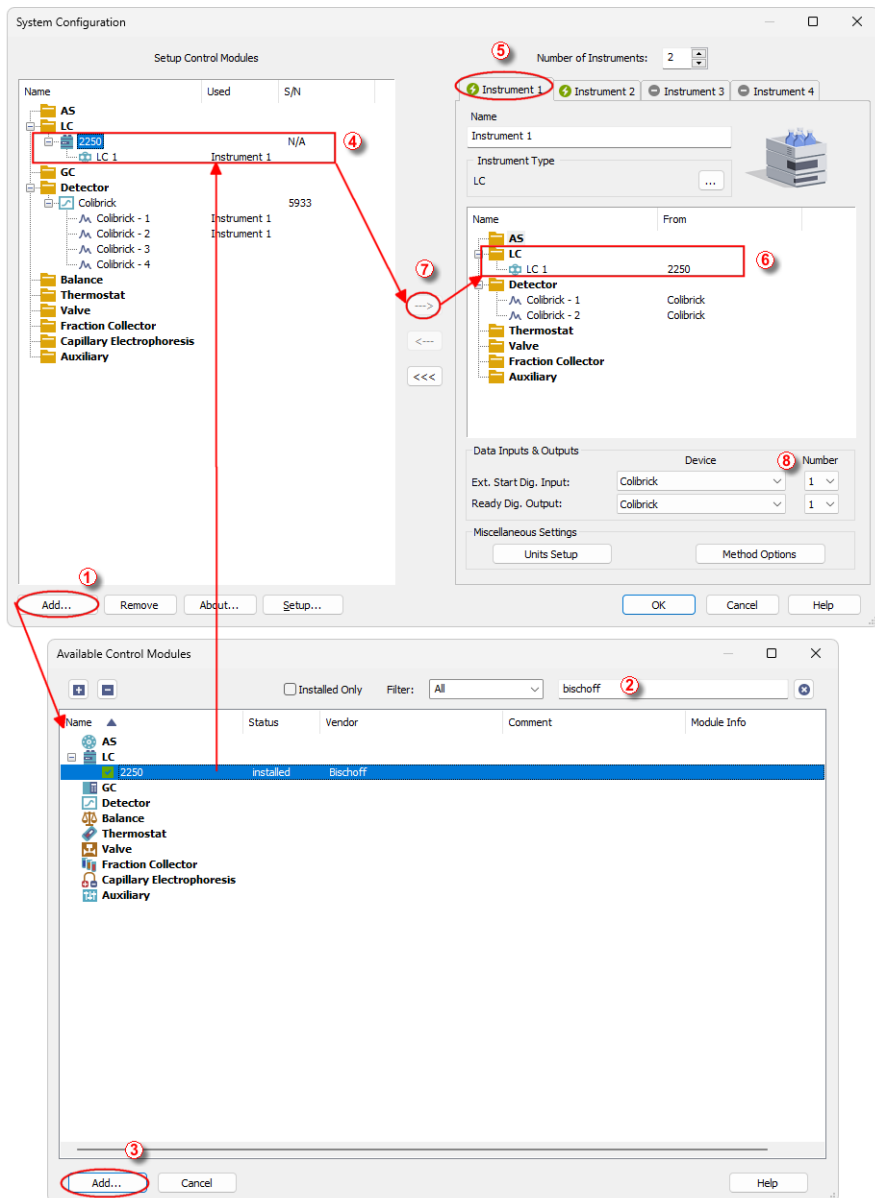

Fig. 3: How to add Bischoff 2250
- Press the *Add* button ① (see **Fig. 3** on pg. 4.) to invoke the *Available Control Modules* dialog.
- You can specify the searching filter ② to simplify the finding of the driver.
- Select the **2250**pump and press the *Add* ③ button.